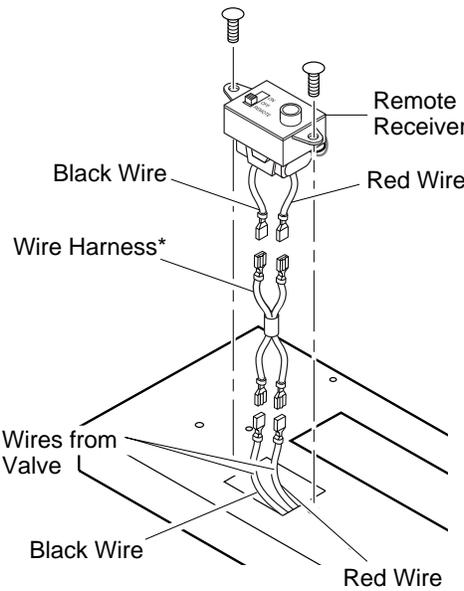

Figure 24 - Installing Remote Receiver
7. Connect wires as shown in Figure 24.
8. Install remote receiver unit onto gas heater base using the two screws removed in step one (see Figure 24).